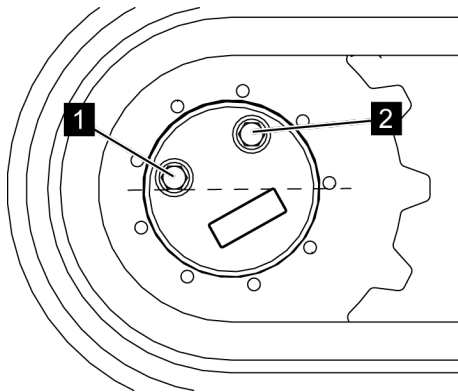

Fig. 143: Tightening the screw connections
9. → Re-tighten the screw connections (Fig. 143/1 and 2) with the seals or copper washers.